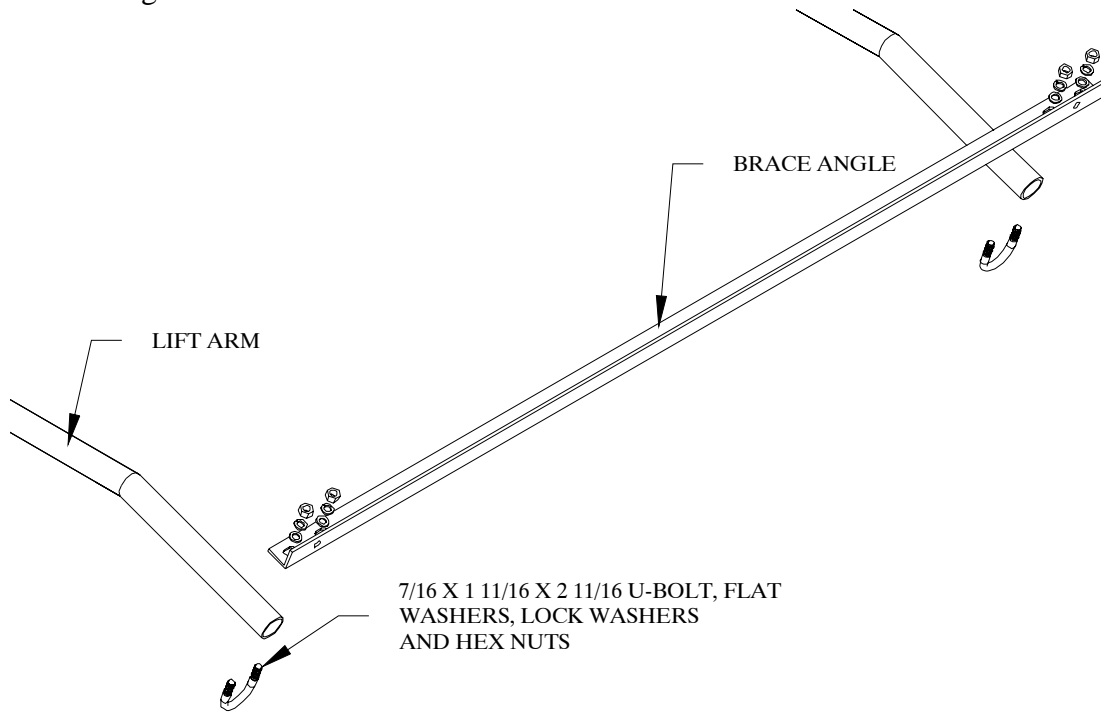

Figure 3
1. Place the Stabilizer Angle across the ends of the lift tubes. Bolt the Stabilizer Angle to the lift tubes using $7/16 \times 1 \ 11/16 \times 2 \ 11/16$ U-bolts, flat washers, lock washers and hex nuts. Refer to figure 3.